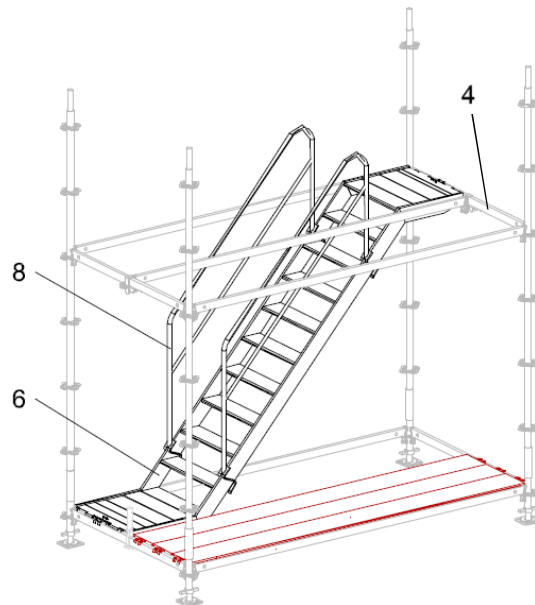

Fig.B2-4
Mount Stair Guardrails UAG (8) in the position shown (Fig B2-4.b)